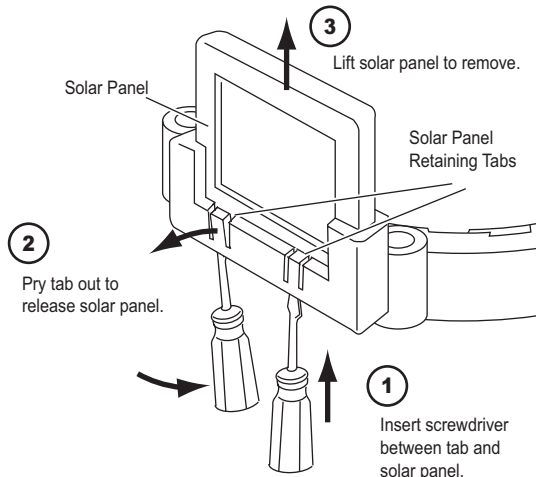

Figure 8. Remove the Solar Panel
1. Insert a slot-tip screwdriver between the solar panel retaining tabs and the solar panel. See Figure 8. .